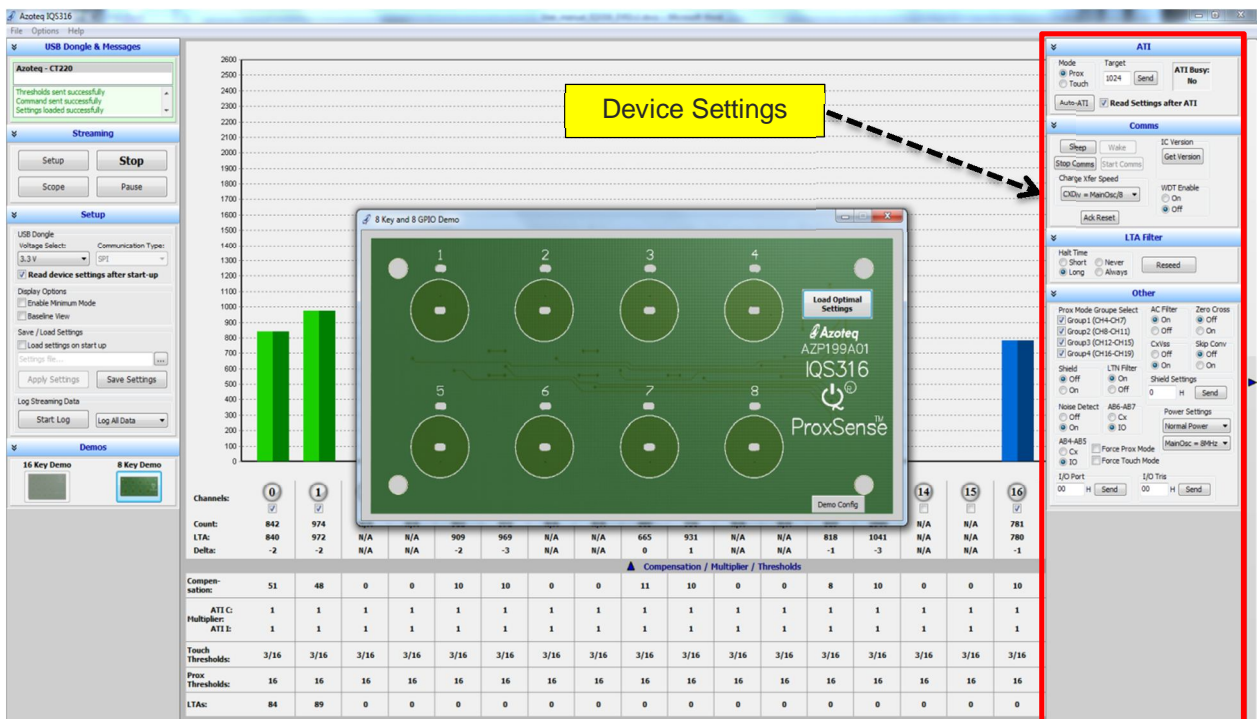

Figure 5.7 Device settings menu
- Figure 5.7 displays the device setting menu: